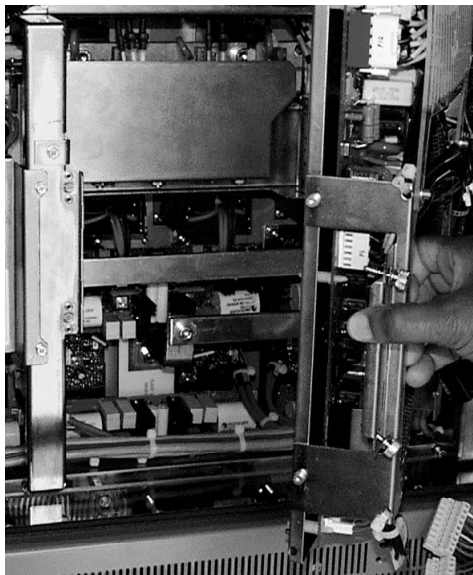

Figure 4.3.15: Opening the Hinged Assembly
2. Loosen the two screws holding the hinged assembly in place. Swing the assembly out to the right (see Figure 4.3.15).